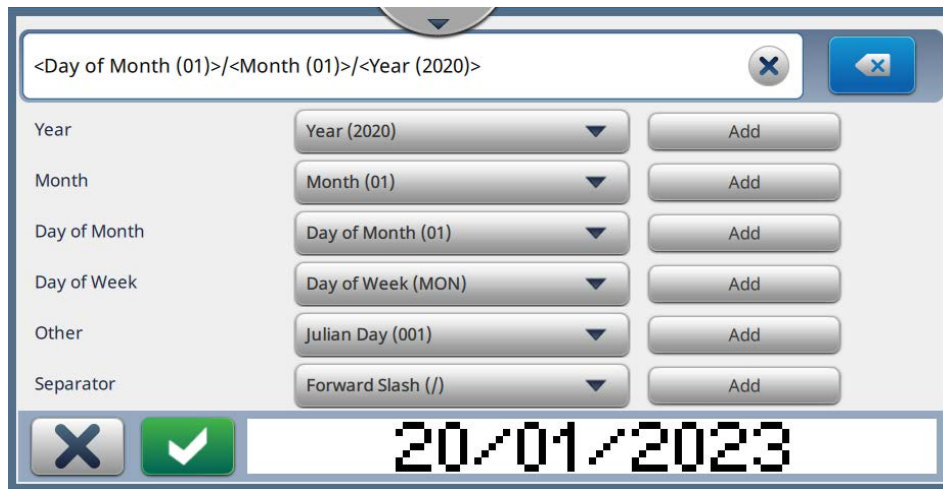
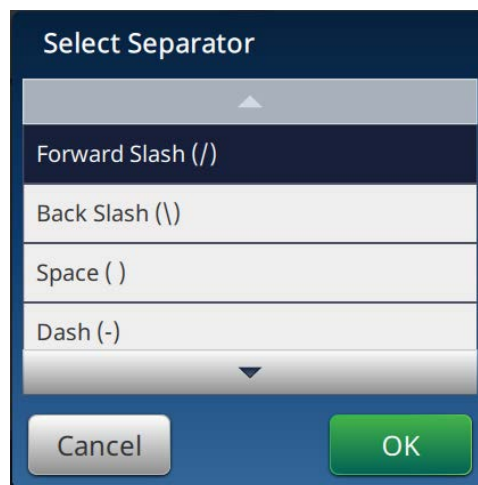

Figure 5-12: Date Set Up Screen
Figure 5-13: Date Separator Set Up Screen
2. Select the required format from the list of options (Year, Month, Date of Month, Day of Week, Other and Separator) as shown in Figure 5-12. Each of these options has a number of layouts which are selectable from drop down list, example as shown in Figure 5-13.
3. Once the required format is selected, touch the  button to move to the date format. The display will show the date format created as shown in Figure 5-12.